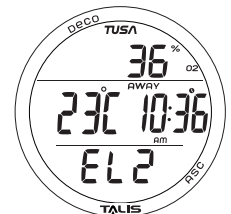

Fig. 26 - NORM SURF ALT
**NORM SURF ALT**, information includes (Fig. 26):